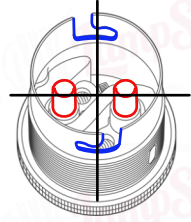

Fig 3
Step 8: Screw the top section of the Lampholder onto the Lampholder's bottom section, ensuring the alignment is correct (**Fig 3**).